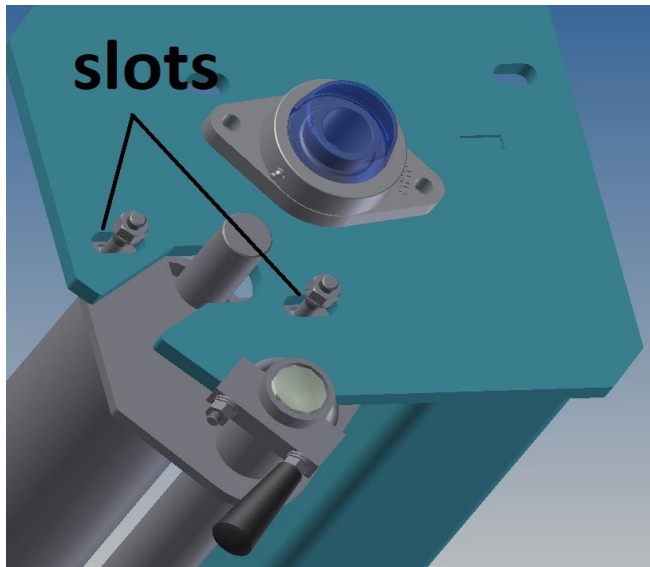

Figure 14 – Adjusting Slots for Return Roller.
- Return rollers are mounted in horizontal slots see figure 14. The bearing is removed to show the slots in the pedestal side plate.